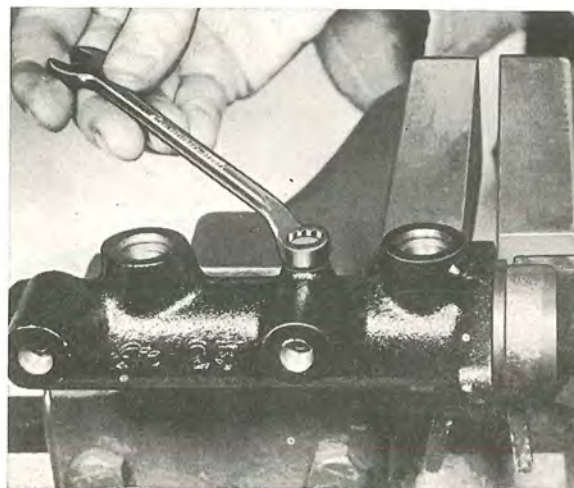

Fig. 5-47. Removing the stop screw
3. Unscrew the stop screw (Fig. 5-47). Remove the circlip from the primary piston with the help of circlip pliers. Remove the pistons.